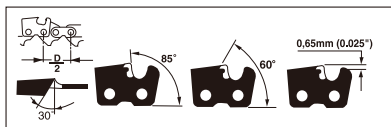
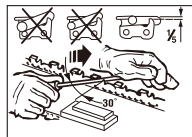

Fig. 21
Fig. 22
**CHAIN SHARPENING** - The pitch of the chain (Fig. 21) is  $3/8''$  LoPro x .050". Sharpen the chain using protective gloves and a round file of  $\varnothing 5/32''$  (4mm).
Always sharpen the cutters only with outward strokes (Fig. 22) observing the values given in Fig. 21.